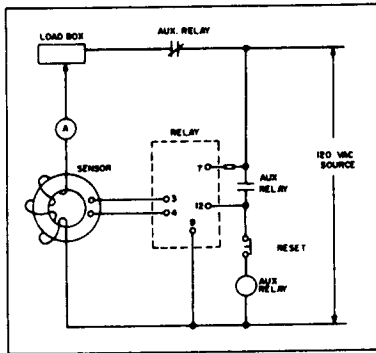

Figure 6: Typical Test Connections
1. Connect relay and sensor as shown for your particular unit in figures 6 or 7.